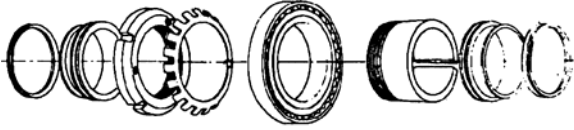

Figure 1a
4. Slide second V-ring seal onto the shaft again making sure lip is toward the housing. **NOTE: Do Not Install** V-ring seal on seal at this time (see Figure 1A).